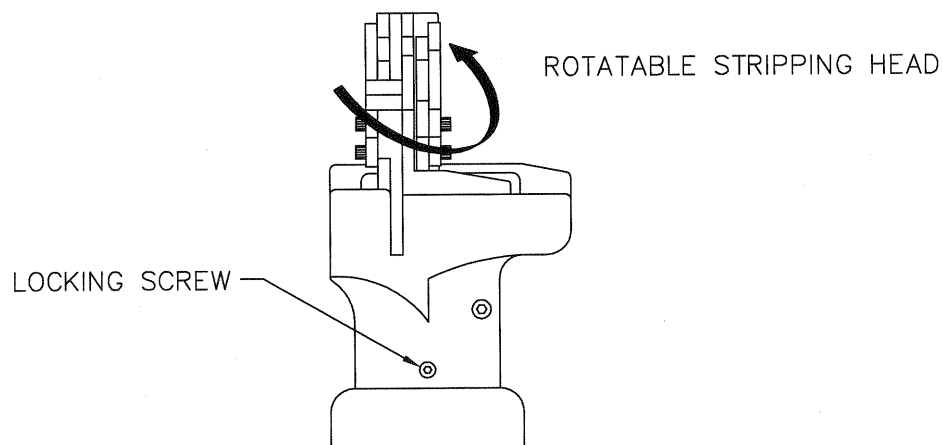

FIGURE 1
2. Hold the stripper in the hand which will be used for operation of the tool and position the control lever where it feels most comfortable for operation. With the locking screw loosened, rotate the stripping head until it is positioned in a proper location for easy viewing and placement of the wire to be stripped. Tighten the locking screw (see Figure 1). NOTE: It will be easier to rotate the head with the air supply disconnected or with the tool in the activated position.